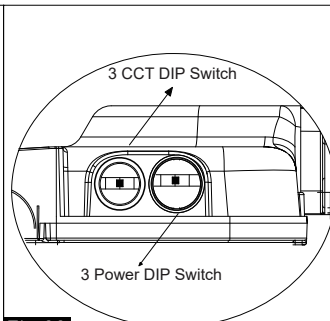

Fig.22
- Dial switch to the corresponding power & CCT: (Fig.22).